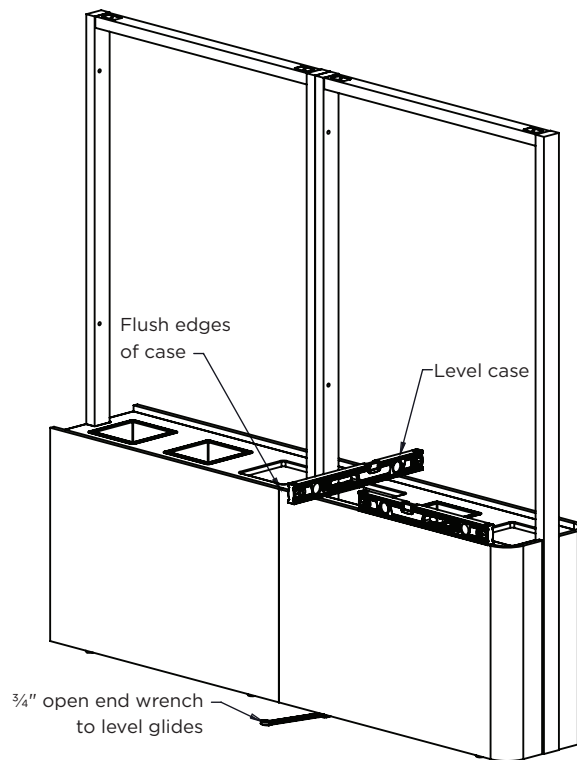

Figure 1B
2. Bring in the adjacent ganging unit and position in location. Using the glides level the unit and align the planter surface with the previous leveled unit. Ensure the case edges are flush all around. **(Figure 1B)**